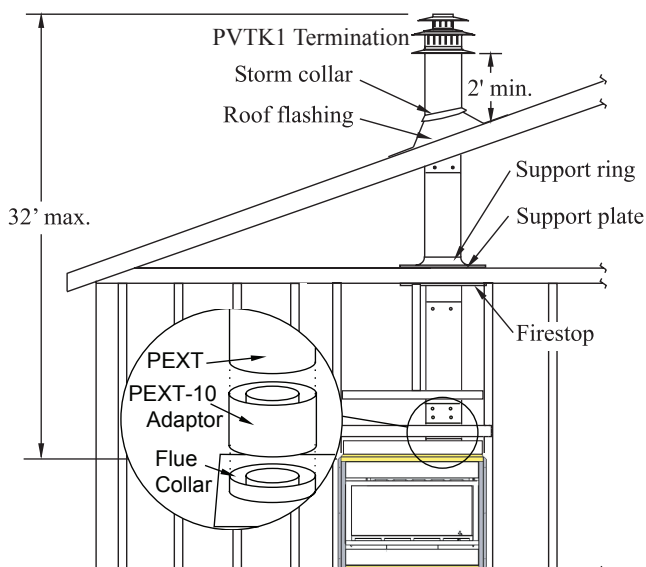

Figure 9. Top vent, Roof mounted termination with no offset in vent run.
- The Vertical termination must be a minimum 2' higher than where the termination exits the roofing materials, (asphalt shingles, cedar shakes, etc). This distance should be measured from the high side of the roof slope where the flue flashing intersects the roofing materials. (see Figures 9 - 9c).